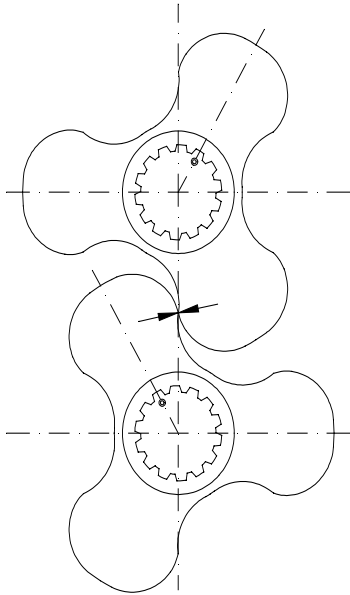
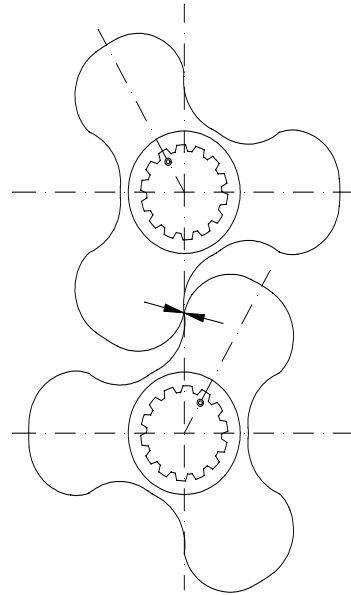

Figure 8.6
Figure 8.7
- Now rotate the lobes to the position indicated from figure 8.6. Then, rotate a little the both lobes one reference the other, until the clearance (throw) has been to indicate for table 8.2.
- Now rotate the top lobe 60° to the left; see the figure 8.7. Make sure that the clearance in this position is the same as that between the lobes in the position shown in figure 8.6.